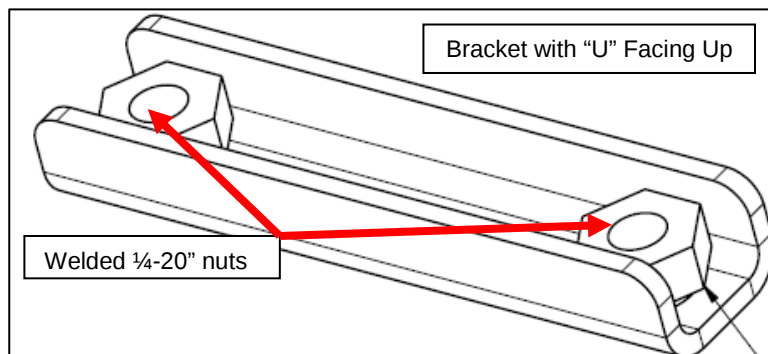

Figure 3: Extension Bracket (TBB 219998)
- Install the extension bracket (TBB 219998) with the "U" of the bracket facing up on top of the existing mounting for the prop-rod connection to the body. See **Figure 3**.